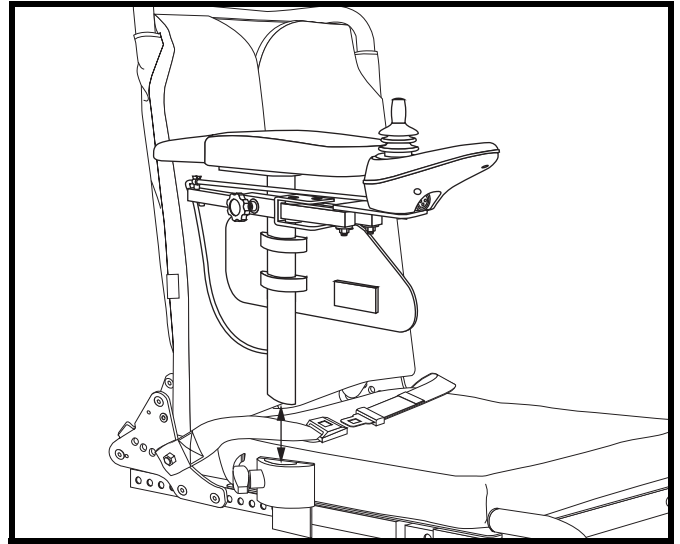

Figure 17. Armrest Removal/Installation
1. Pull out the armrest lock lever. See figure 17.
1. Place the armrest assembly into the armrest lock. See figure 17.